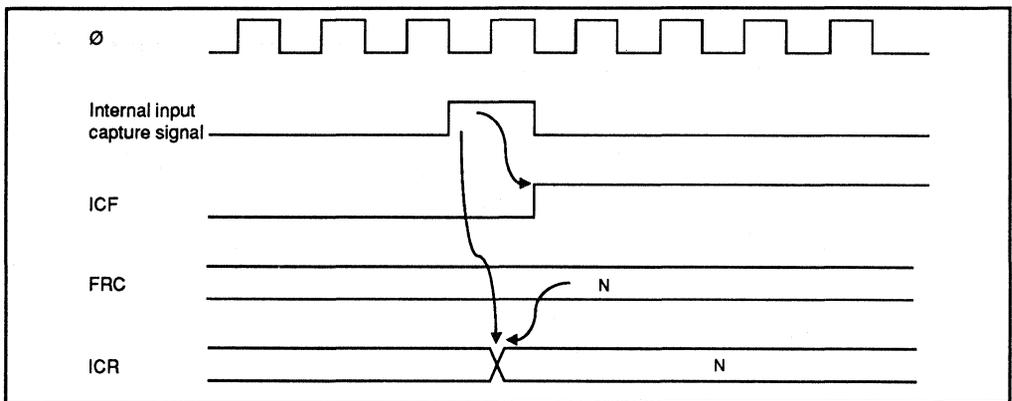

Figure 6-16. Setting of Input Capture Flag
(2) **Timing of Input Capture Flag (ICF) Setting:** The input capture flag ICF_x (x = A, B, C, D) is set to "1" by the internal input capture signal. Figure 6-16 shows the timing of this operation.